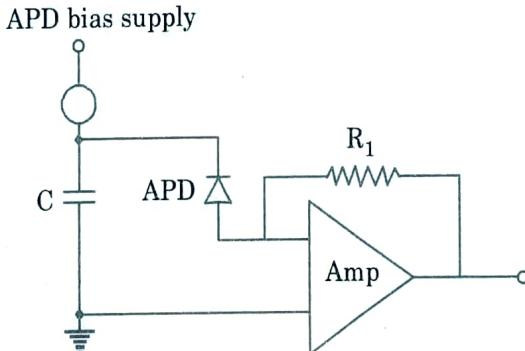

Fig. 4.14.2.
2. One simple method of providing AGC is to bias avalanche photodiode (APD) with a constant DC current source bias, as shown in Fig. 4.14.2.